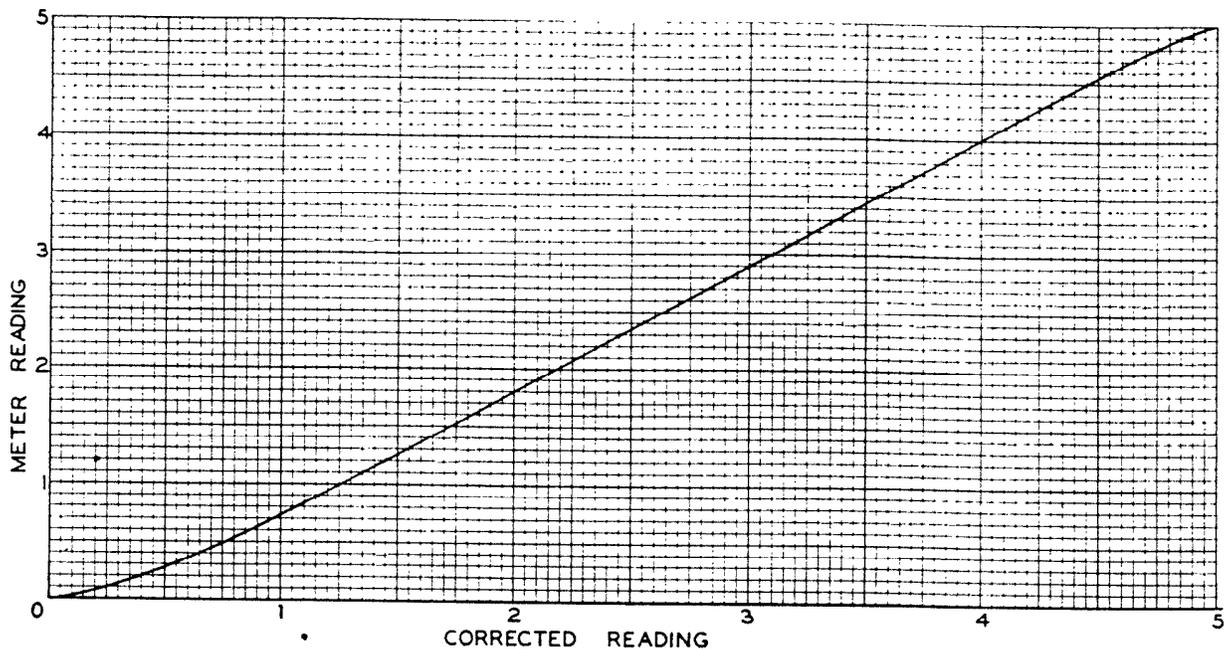

Figure 8—Correction Curve for Low Voltage Peak to Peak Measurements (0 to 4.5 P.P.)
- For maximum accuracy when measuring peak-to-peak voltages between 0 and 4.5 volts, the correction curve, Figure 8 should be consulted.